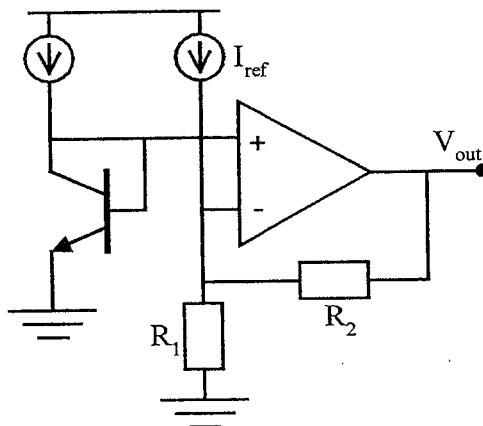

Figure 5
5. (a) Figure 5 shows a circuit designed to measure temperature. Derive an expression showing how the output voltage varies with temperature, and hence choose suitable values for R_1 and R_2 to give an output voltage sensitivity of 0.1 V/ $^{\circ}$ C, given that $V_{be} = 0.68$ V at $T = 27$ $^{\circ}$ C, and $\frac{dV_{be}}{dT} = -2.1$ mV/ $^{\circ}$ C. The output voltage at 0 $^{\circ}$ C should be 0 V.